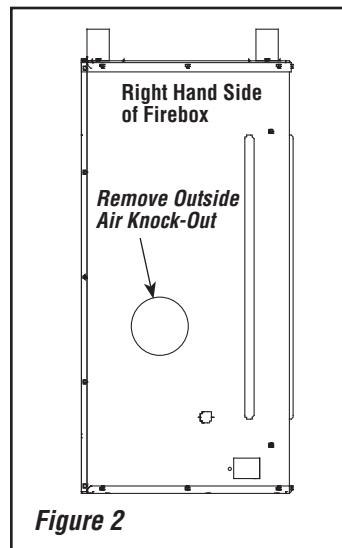

Figure 2
1. Remove the outside air knock-out on the right hand side of appliance (See **Figure 2** for location).